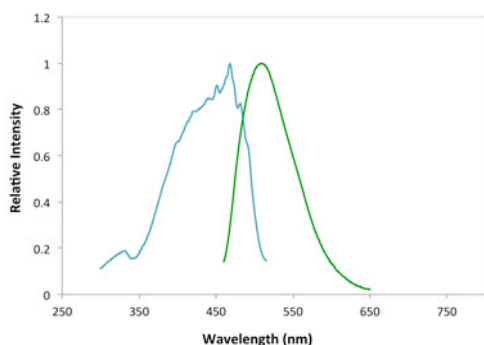
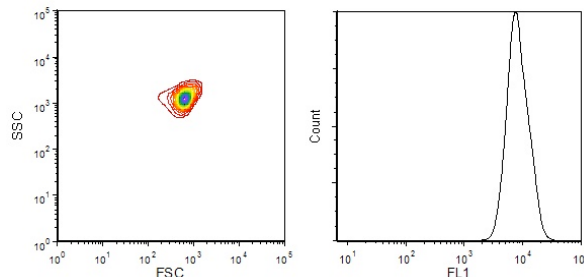

Figure 1. Excitation and emission spectra of Zepto™ Green Carboxyl Microspheres.
Figure 2. FSC-SSC plot and fluorescence histogram in FL1 of Zepto™ Green Carboxyl Microspheres on a flow cytometer.
The excitation and emission spectra are illustrated in Figure 1. They are a suitable for flow cytometry-based assays. Their Forward Scatter (FSC) vs. Side Scatter (SSC) plot and fluorescence histogram in FL1 (488 nm excitation; 536 nm emission) on a typical flow cytometer are illustrated in Figure 2.
1. Gate on the single population of microspheres on FSC vs. SSC plot (refer to Figure 2)